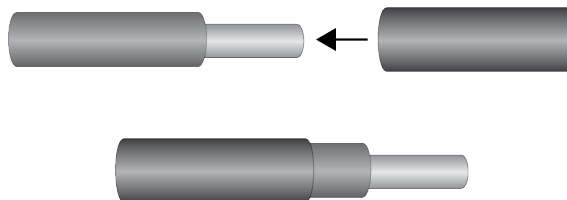

Figure 41. Sliding a Heat-shrink Tube Over the Grounding Wire
2. Slide a heat-shrink tube over the grounding wire. Refer to Figure 41